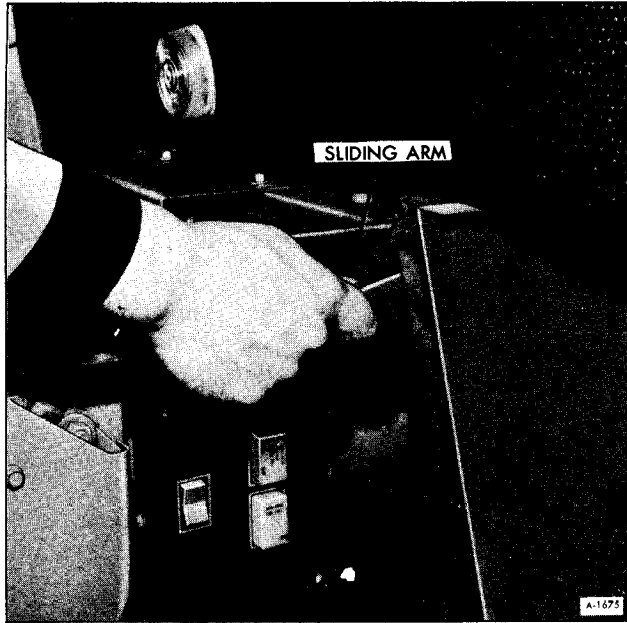
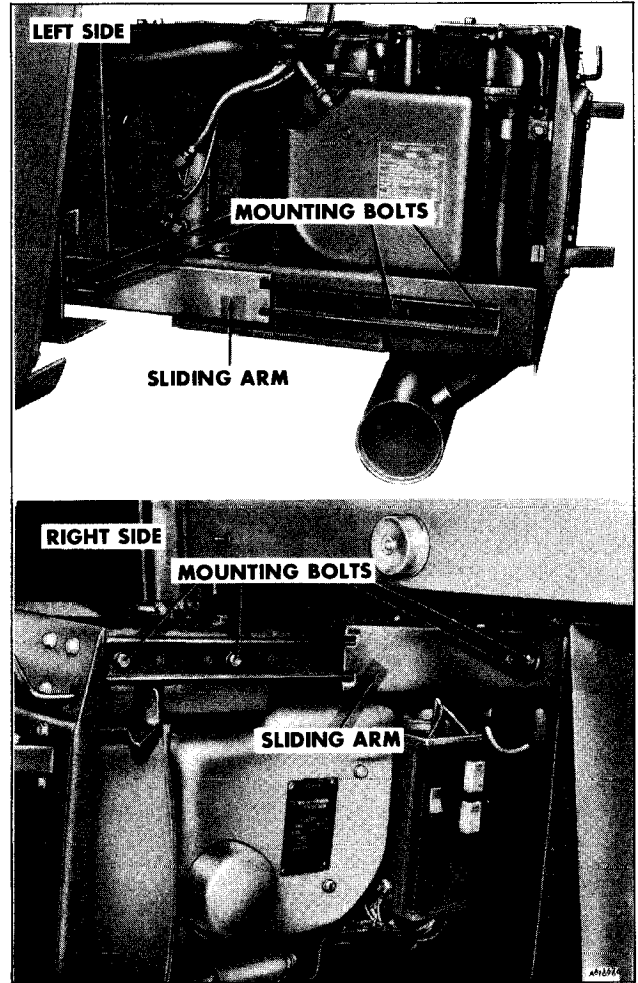

Figure 3-Disconnecting Sliding Arm (6KW)
Figure 4-Disconnecting Sliding Arms (4KW)
6. Remove bolts from both sliding arms (figures 3 and 4).
NOTE: The bolts on the 4KW motor generator are readily accessible, as shown in Figure 4, whereas the mounting of the 6KW unit requires one of the bolts to be removed as shown in Figure 3.
4. Install mounting bolts in slide rails as shown in Figures 3 and 4.